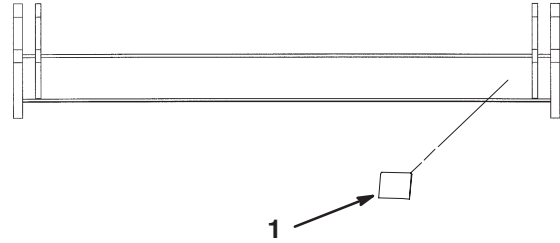

Figure 6
3. For ANSI B71.4–2004 compliance, affix the ANSI safety decal to the right side of the rear frame, as shown in figure 6.